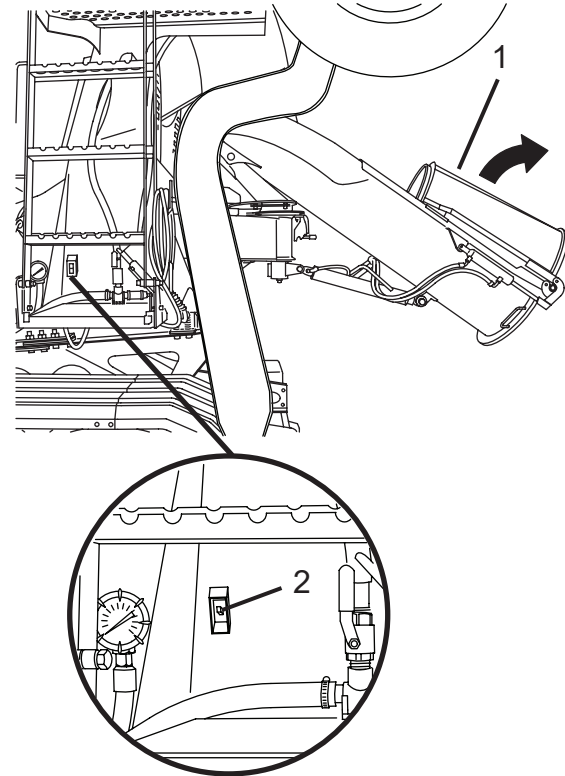

Figure 134
The hydraulic fold-over toggle switch (Figure 134, Item 1) enables the operator to fold or unfold the fold-over chute (Figure 134, Item 2) using a hydraulic cylinder.
3. Press and hold the fold-over toggle switch (Figure 134, Item 2) until the fold-over chute (Figure 134, Item 1) is fully seated against the main chute. Release the switch.
1. Press and hold the fold-over toggle switch (Figure 134 , Item 2) until the fold-over chute (Figure 134, Item 1) is fully seated against the main chute. Release the switch.